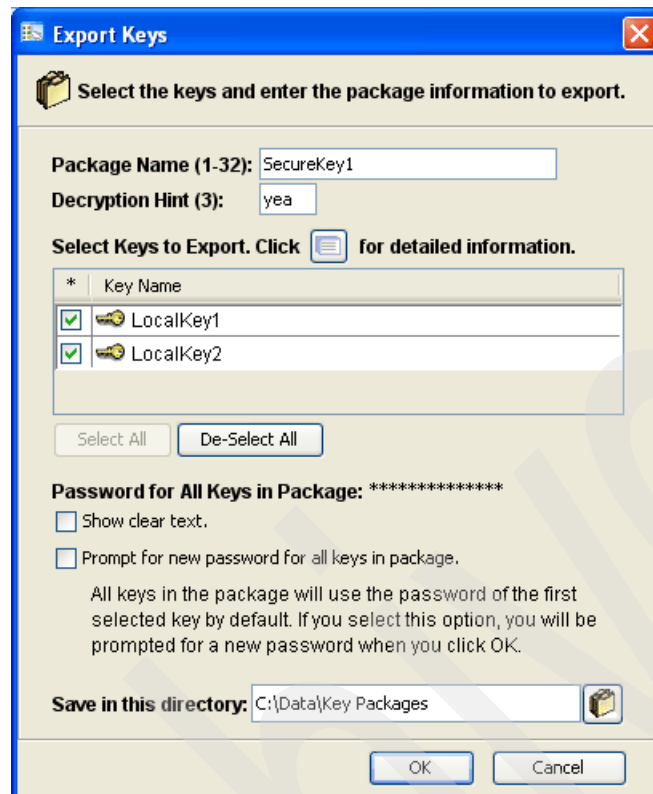

Figure 12-74 Password for all keys in package displayed as asterisks
5. After you enter the password in the Password text box, that password appears in the Password for All Keys in Package area on the Export Keys dialog box as shown in Figure 12-74. By default, the password is displayed as asterisks.